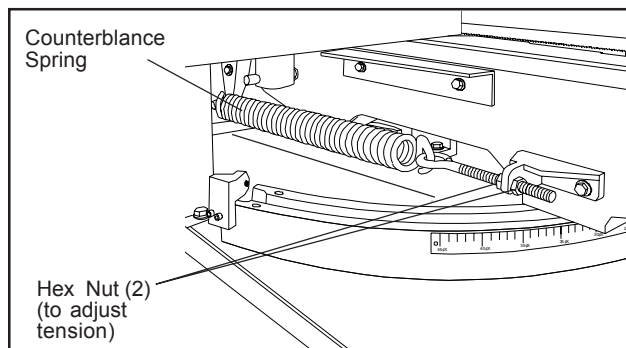

Figure 18: Counterbalance Spring Adjustment
1. Raise the saw arm to its full upright position and lock it in position (refer to Figure 18).